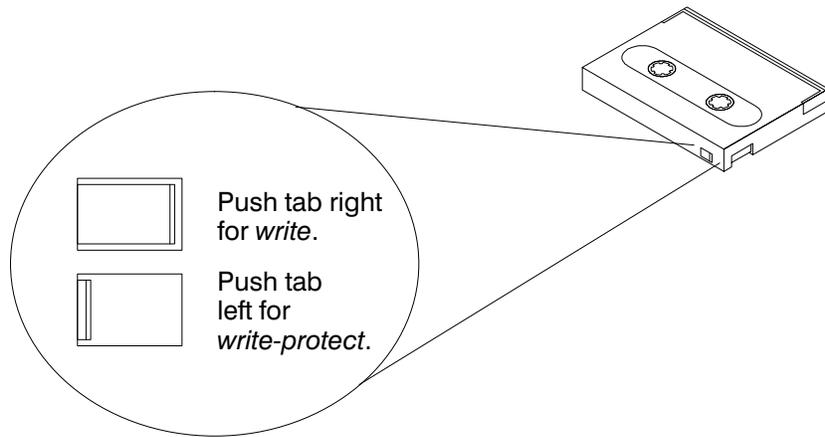

Figure 2–2. Setting the Write-Protect Tab on a DDS Tape
You can only store or change information on a data cassette when the write-protect tab is in the *write* position. So, before trying to write to the data cassette, make sure that the write-protect tab is in the *write* position, as shown in Figure 2–2.
To protect information on a data cassette from being overwritten, set the write-protect tab to the *write-protect* position, as shown in Figure 2–2.
4. To remove the data cassette, press and release the eject button on the front of the drive, as shown in Figure 2–3. The LEDs on the drive flash on and off. Ten to twenty seconds later, the data cassette slides partway out of the drive. Remove the cassette from the drive.